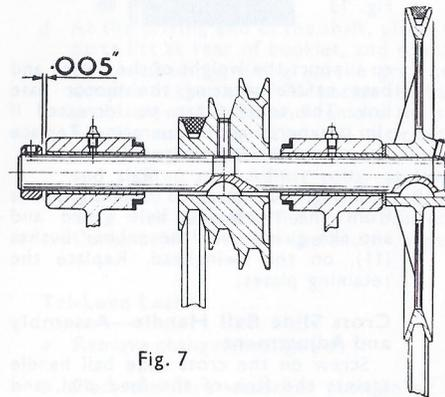

Fig. 7
d Slide the countershaft right through the remaining swing head bearing; place the fibre washer on the shaft and insert the second woodruff key at the extreme end of the countershaft (right hand end). Mount the vee pulley (4), and secure with the two socket grub screws (5). Adjust the collar (6) to allow approximately .005" end float. See Fig. 7.
- d At the driving end of the shaft, place in position the thrust washer P.22, see parts list at rear of booklet, and countershaft pulley assembly including the clutch assembly, lining up the grub screws in the backplate P.14 with the dimples in the shaft P.75. Locate the backplate on the shaft by tightening one grub screw. Release and remove the sleeve nut P.7 and withdraw lever P.8 keeping adjusting collar P.2 attached to it. Tighten securely both grub screws in backplate P.14. Replace washer P.2, lever P.8 and sleeve nut P.7 and tighten nut. Adjust collar at lever end of countershaft to give .005" end float to shaft, see Fig. 7 page 9. Position lever pivot bracket on swing head with outer end flush with boss on swing head and tighten grub screws. Continue as 'e' etc. to the end on pages 9 and 10.
- c Check shaft for end float. See Fig. 7 page 9. Adjust the collar if necessary.